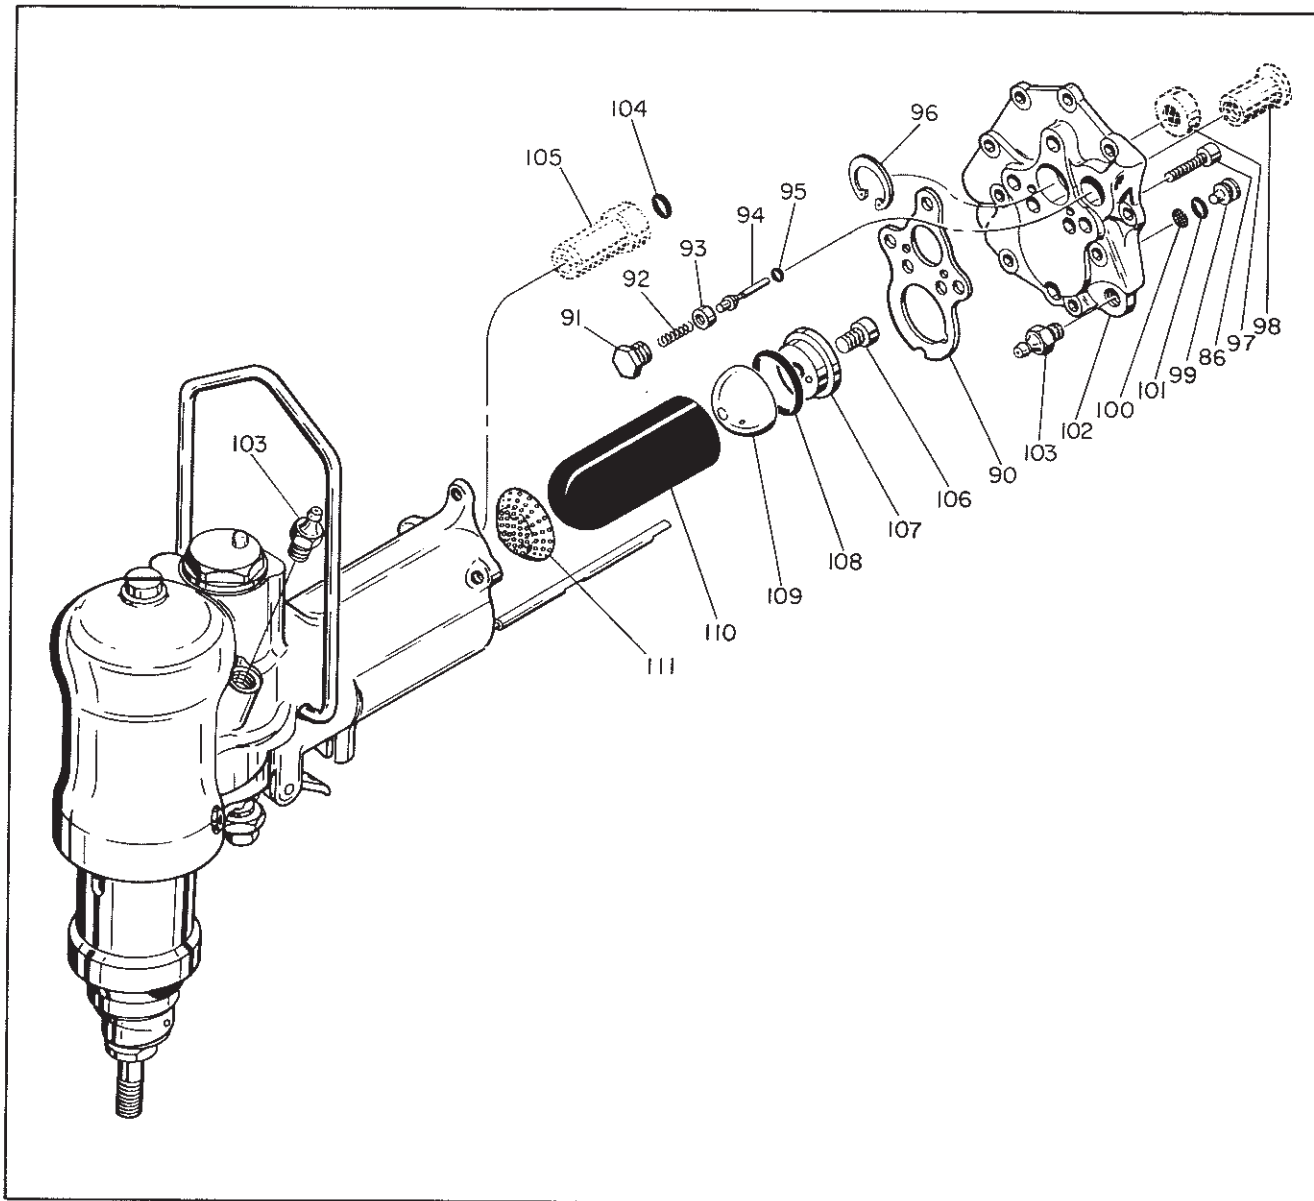

Figure 8. Cylinder Adaptor Group
4. Cylinder Adaptor Group. (See figure 8.)
2. Cylinder Adaptor Group. (See figure 8.)